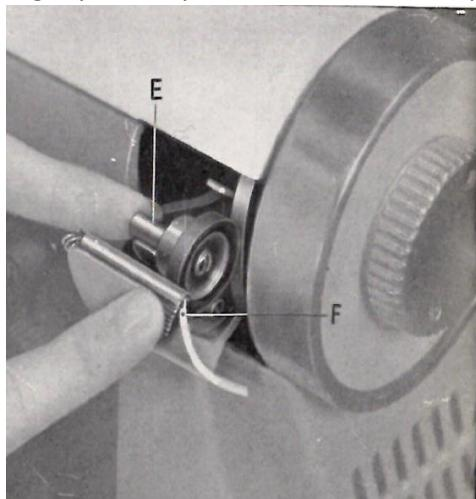

Figure 13
- With the right hand open the Bobbin winder cover F (Figure 13) by pushing it downwards as far as it will go. Keep the cover open. With the finger of the left hand, push the short spindle E